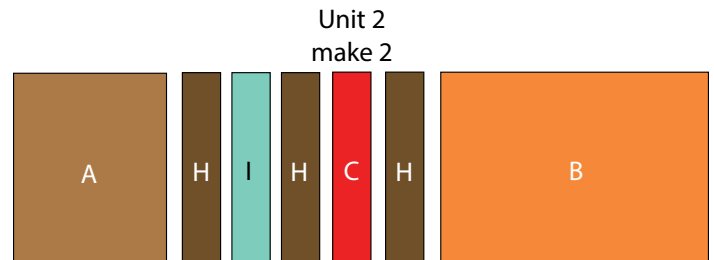

Fig. 8
8. Sew (1) $4\frac{1}{2}$ " x $5\frac{1}{2}$ " Fabric A strip, (3) $1\frac{1}{2}$ " x $5\frac{1}{2}$ " Fabric H strips, (1) $1\frac{1}{2}$ " x $5\frac{1}{2}$ " Fabric I strip, (1) $1\frac{1}{2}$ " x $5\frac{1}{2}$ " Fabric C strip and (1) $5\frac{1}{2}$ " x $7\frac{1}{2}$ " Fabric B strip together to make (1) Unit 1 (Fig. 8). Repeat to make a second Unit 1.